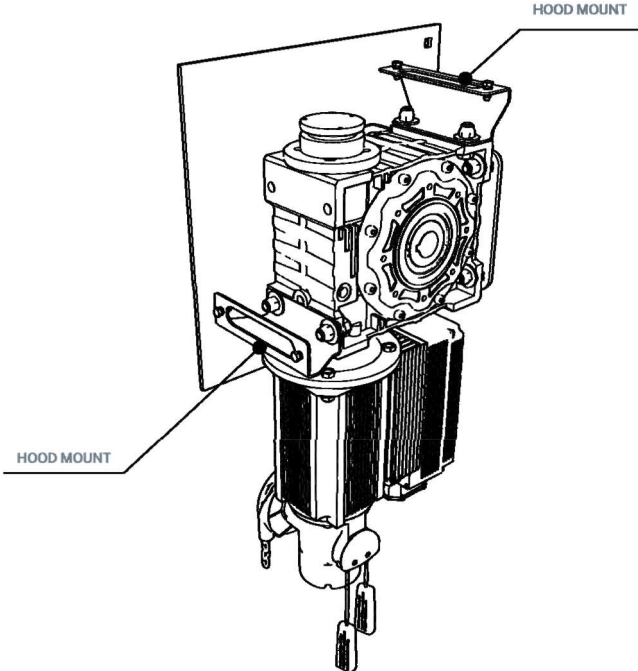

Figure 1 – Motor Cover Mounts
2. Install the (2) **HOOD MOUNT BRACKETS** with the provided (4) 1/2-13 x 1.5" included hardware as shown in **Figure 1**.